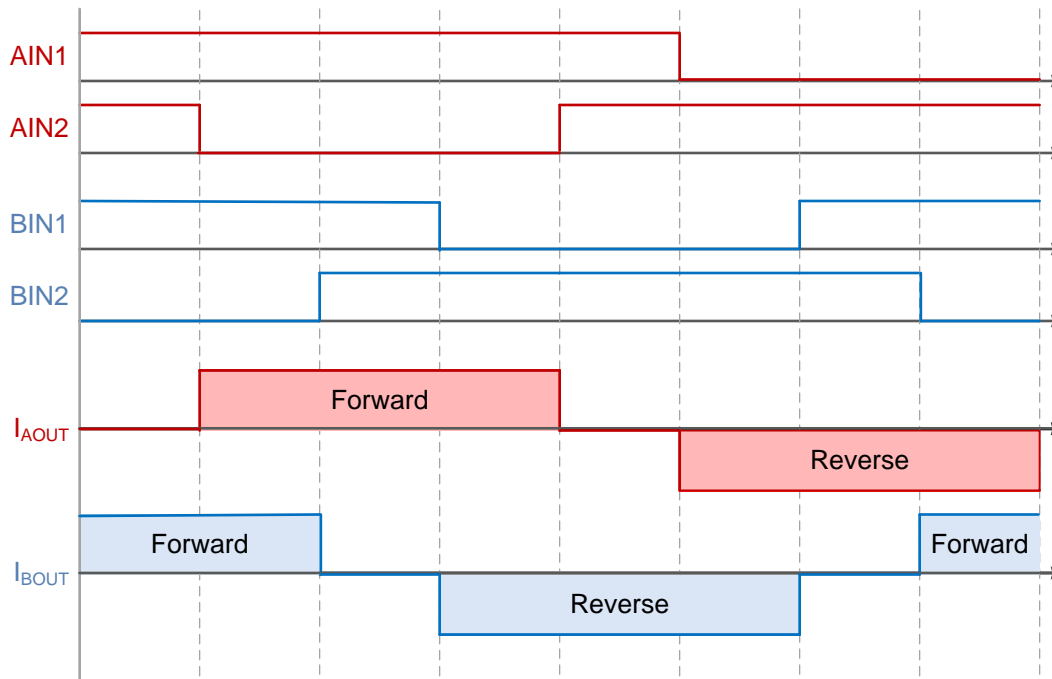

Figure 11. Half-Step Mode
- A. Channel 1 is the AIN1 input PWM signal, and channel 2 is the AIN2 input PWM signal. BIN1 and BIN2 follow the same pattern, but are shifted by 90° from AIN1 and AIN2 as shown in Figure 11. Channel 4 is the output current in the direction AOUT1 → AOUT2. In forward and reverse drive, the current rises until it hits the current chopping limit of 200 mA, and is regulated at that level with fixed-off time current chopping.